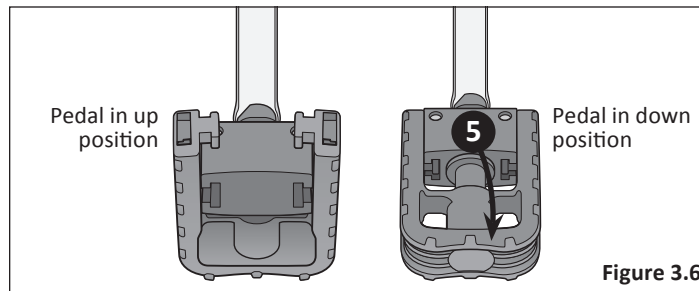

Figure 3.6
- ❹ If the spindle entered the hole cleanly then use a 15 mm wrench to tighten completely.
- ❺ Flip the pedals into the down position. **Figure 3.6**